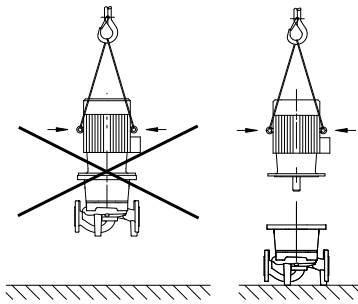

Fig. 8: Transporting the motor
- The transport eyes on the motor are only for transporting the motor and are not approved for transporting the complete pump (Fig. 8).